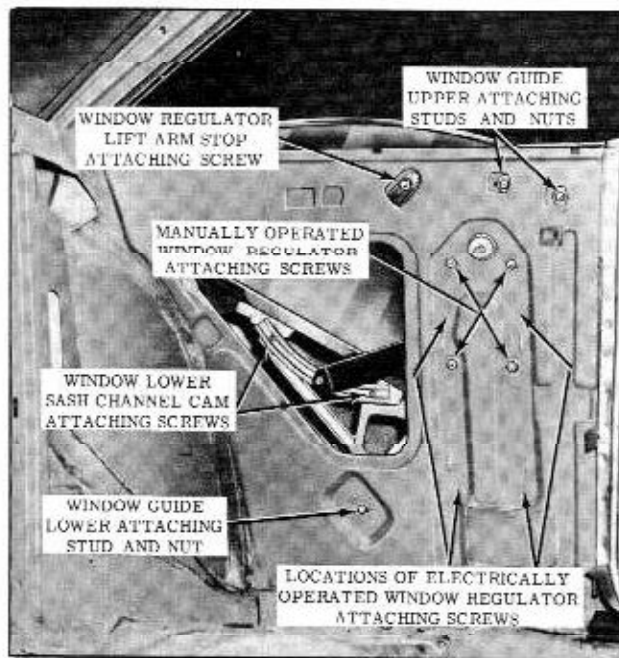

Fig. 17-58 Rear Quarter Hardware
4. With the rear quarter window in the down position remove the lower sash channel cam attaching screws. (Fig. 17-58)
6. Loosen rear quarter window front guide attaching screws. (Fig. 17-58)
3. To adjust the window fore or aft, loosen the front guide attaching stud nuts. (Fig. 17-58) Move the window and guides fore or aft as required; then tighten the front guide attaching stud nuts.
4. To adjust the rear quarter window in or out, loosen the window front guide upper attaching stud nuts. (Fig. 17-58) Adjust the studs in or out as required; then tighten stud nuts.
5. To limit the forward and upward travel of the rear quarter window, adjust the regulator lift arm stop as required. (Fig. 17-58)
4. Remove window lower sash channel cam attaching screws. (Fig. 17-58) Detach cam from roller on regulator lift arm and remove cam.
6. Remove front guide upper and lower attaching stud nuts. (Fig. 17-58) Disengage guide cams from rollers on window lower sash channel frame; then remove guide from between quarter panels.
2. With window in up position remove the window front guide upper and lower attaching stud nuts. (Fig. 17-58)